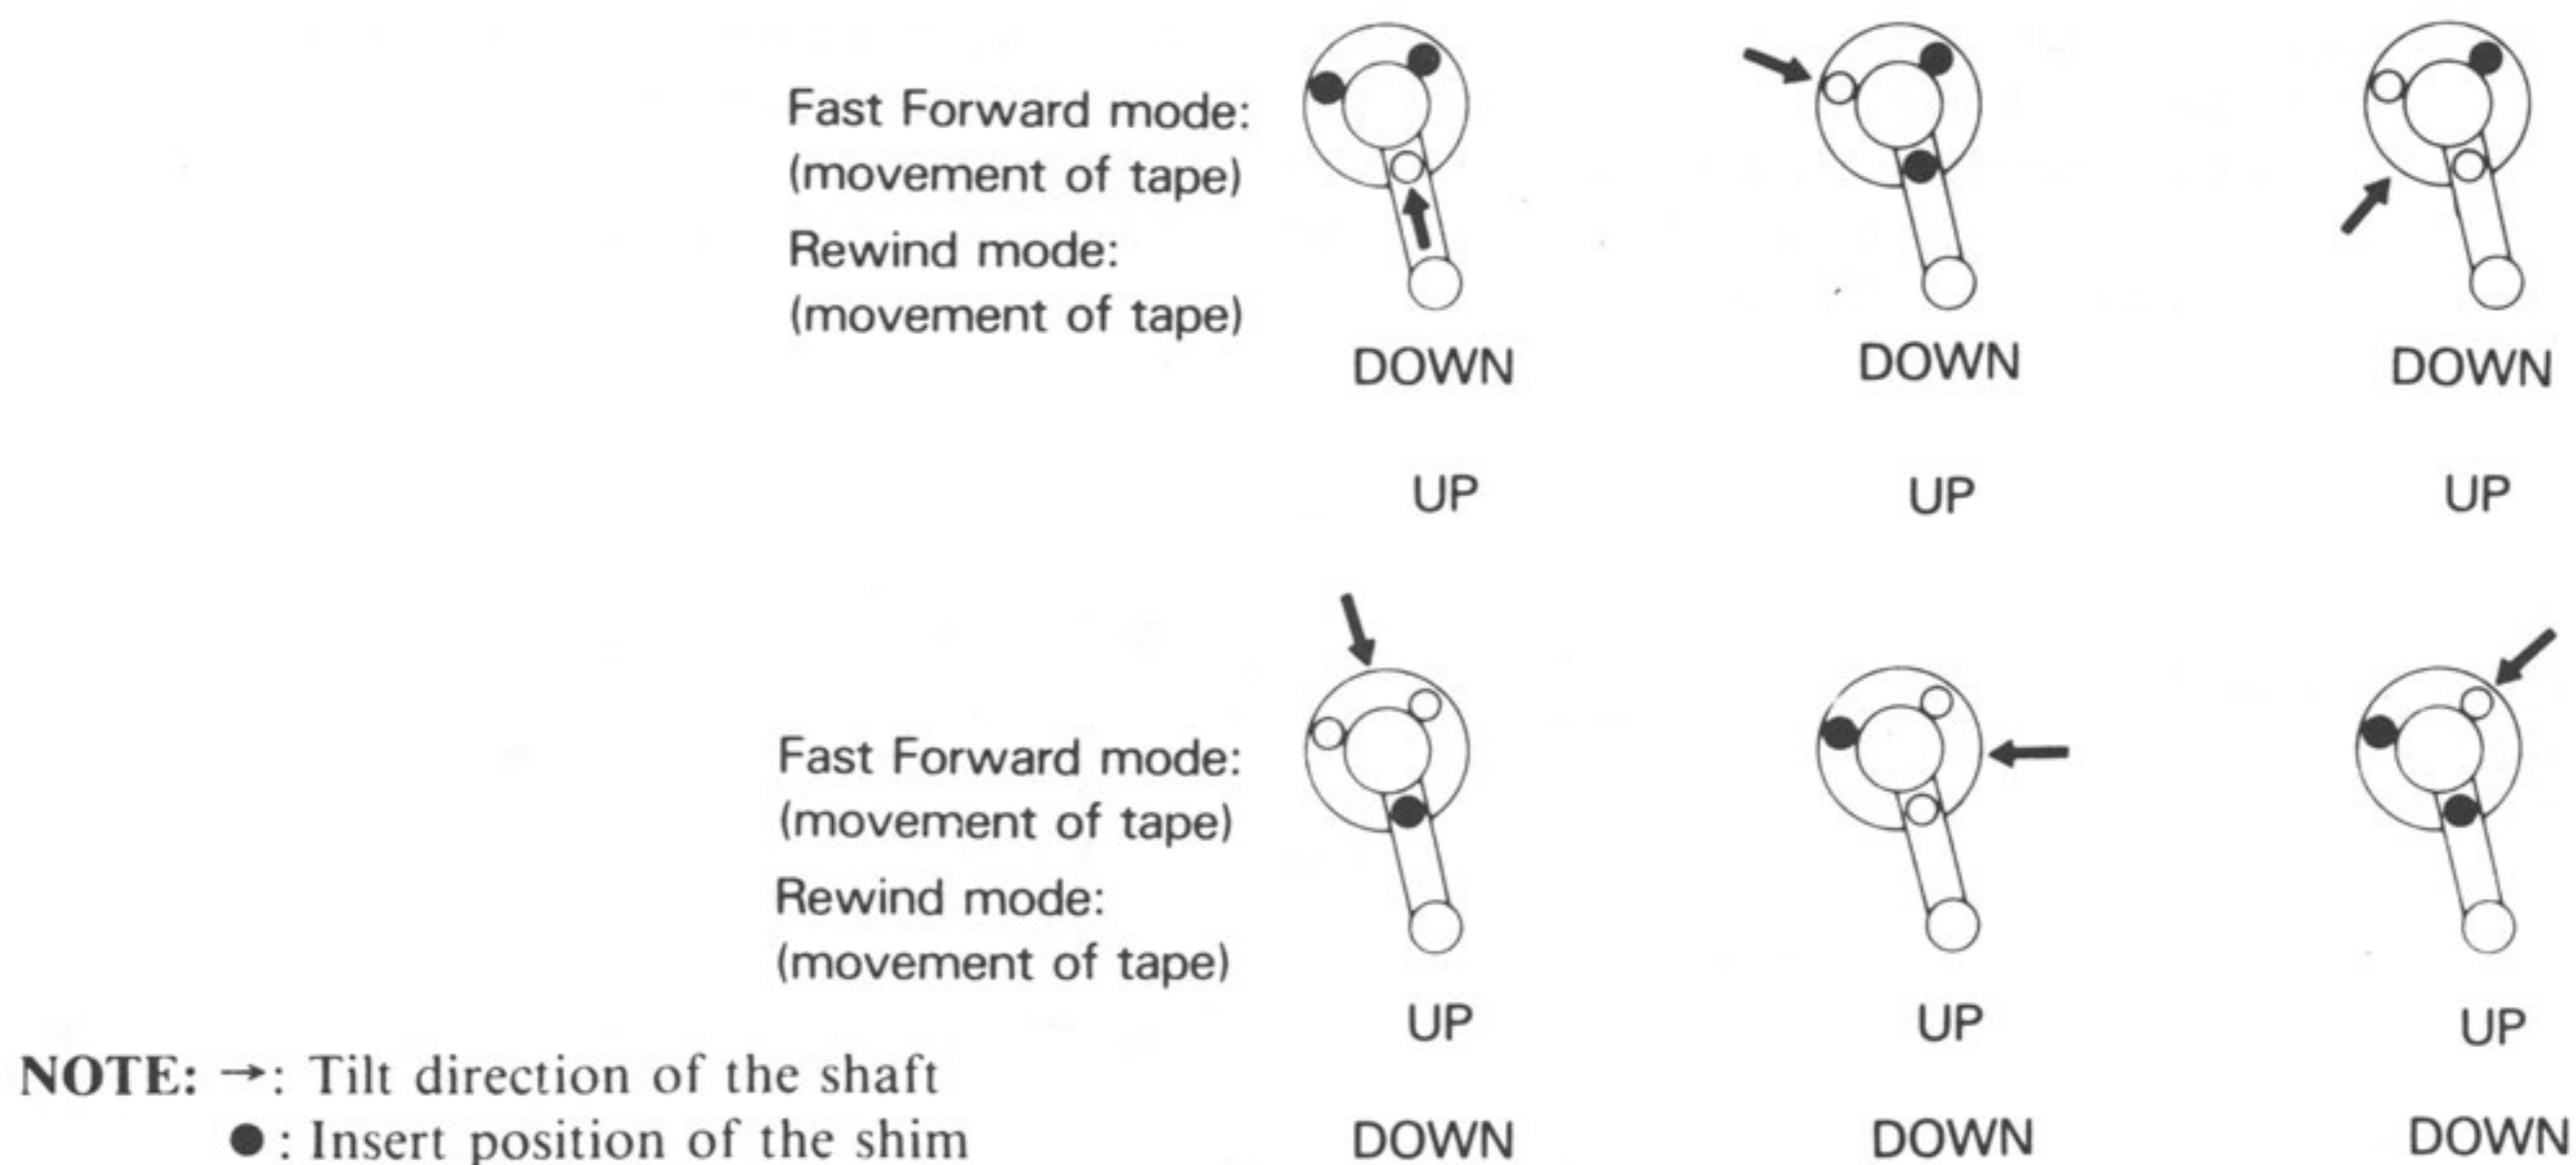

Figure 6-8. Effect of Supply Tension Arm on Tape Movement
STEP 1. Using Figure 6-8, determine where the roller shim should be placed to correct the up or down movement of the tape travel.